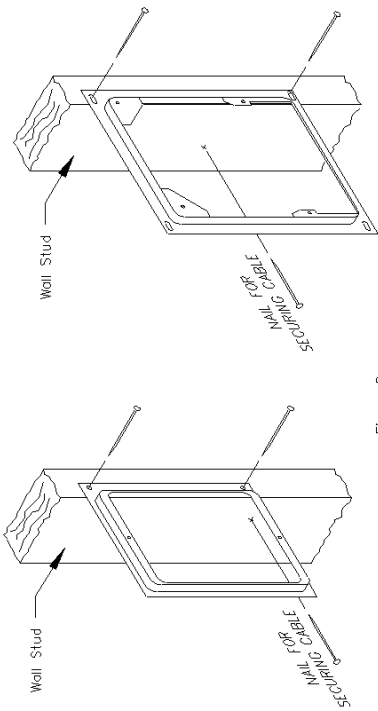

Figure 2
2. With the raised surface extending into the room, nail speaker mounting ring to a wall stud in a level position at a center height of normal light switches (Fig. 2). Drive a nail into the wall stud as shown (to be used to secure cable until speaker connection is to be made). Repeat for all speaker locations. **RETROFIT:** Cut an opening at the edge of a wall stud for the following applications.